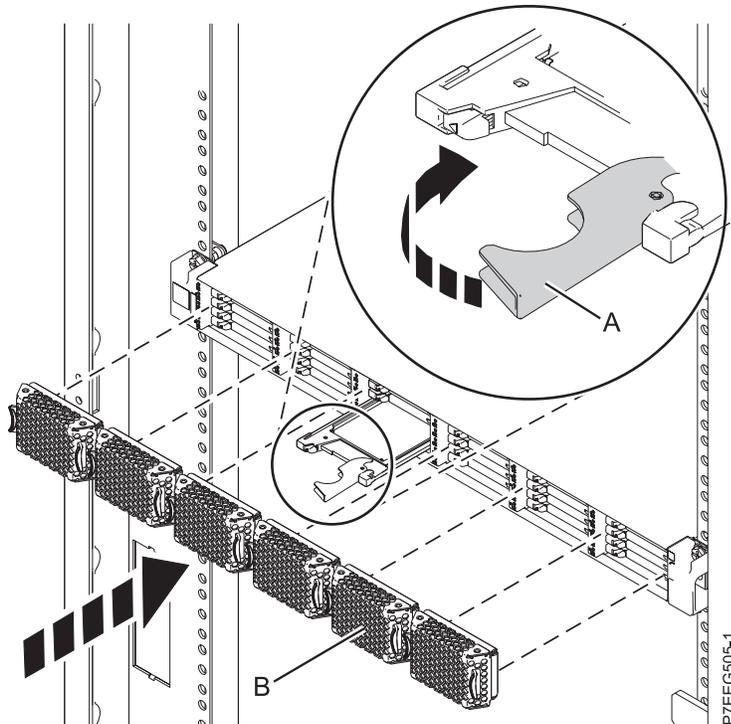

Figure 14. Installing a solid-state drive in the ED/R1 PCIe storage enclosure
1. With the handle in the unlocked position, align the solid-state drive with the guide rails in the enclosure. See Figure 14 on page 25,
3. Rotate the handle (A) to the locked position, as shown in Figure 14 on page 25.
4. Install the bezel (B).